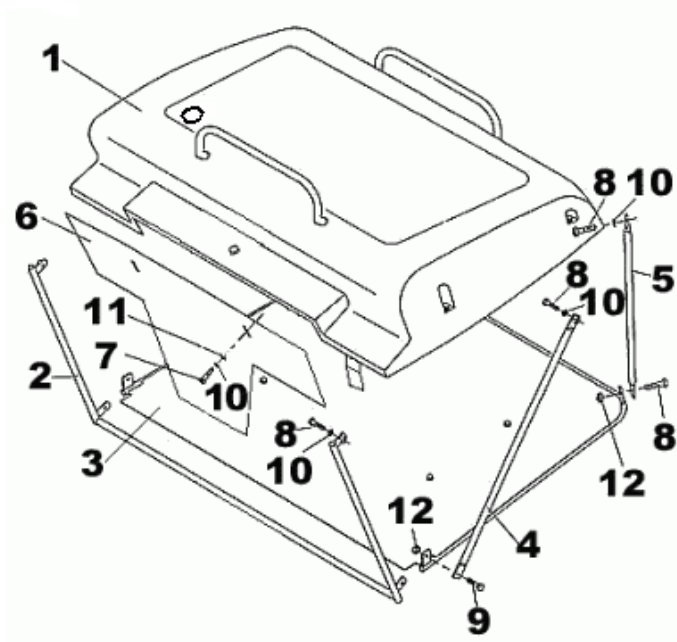

Fig.2
**Assembly of storage bin – Fig.2**
1. The assembly of the storage bin is performed according to Fig. 2 and the list of parts of the grass storage bin.
3. Place the cap of the storage bin pos. 1 on the paper. Spread the fabric for the easy assembly of bolts.
4. Screw the curtain to the cap pos.6. Push the curtain to the cap to the stop.
5. Screw parts. pos. 5,4,2, so that the free ends pos. 5,4,2, are approximately in the area. For pos. 4 and 2 the holes are in one axis.
6. Place the frame of the bottom pos.3 with the feet to the free ends of positions 5,4,2,. Then screw.
7. Lift the fabric and insert the locks of the fabric into pos. 2 and 3.
9. Place the storage bin on the guiding according to Fig.2 and check the tightening of the fabric and the placement of the storage bin in the closed position!